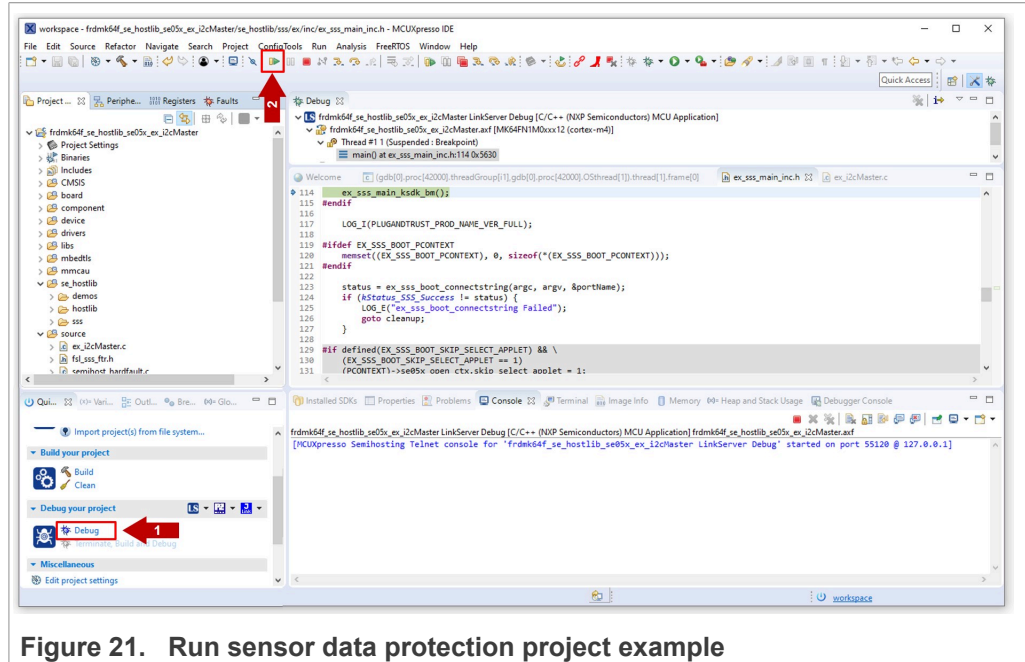

Figure 21. Run sensor data protection project example
- Go to the MCUXpresso Quickstart Panel and click *Debug* button, wait a few seconds until the project executes and click on Resume to allow the software to continue its execution as shown in Figure 21